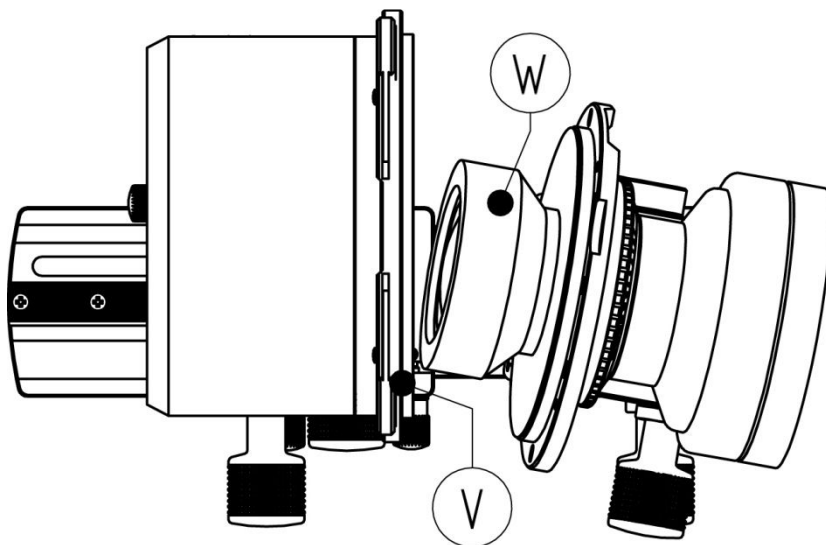

*Figure 5: Safety stop to prevent collision*
To prevent a collision between the rear lens element, interface plate and/or sensor, please use the safety stop (Q, figure 5). Please note that when you swing or tilt the lens in combination with shift or rise/fall the rear element will be closer to the interface plate. Please set the focus unit (F) to the end stop of the telescopic rail (R) as indicated in figure 5, now lock the focus unit. Please slide the telescopic rail (R) towards the rear element (W) until there is still some clearance between the interface frame (V) and the rear element. Lock the telescopic rail at this setting. The last step is to slide the safety stop against the locked telescopic rail and lock the safety stop.